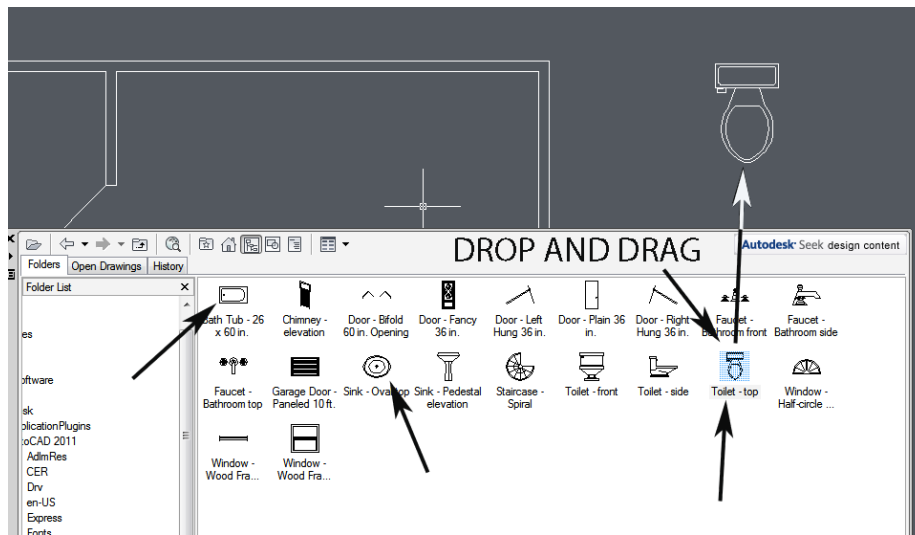

Fig 1-42
**Center the cursor** over the **toilet symbol**, hold the left mouse button down, pull it over and release the button on the AutoCAD drawing screen (not too close to the house) as shown in **Fig 1-42**. (This is called **drop and drag**.)